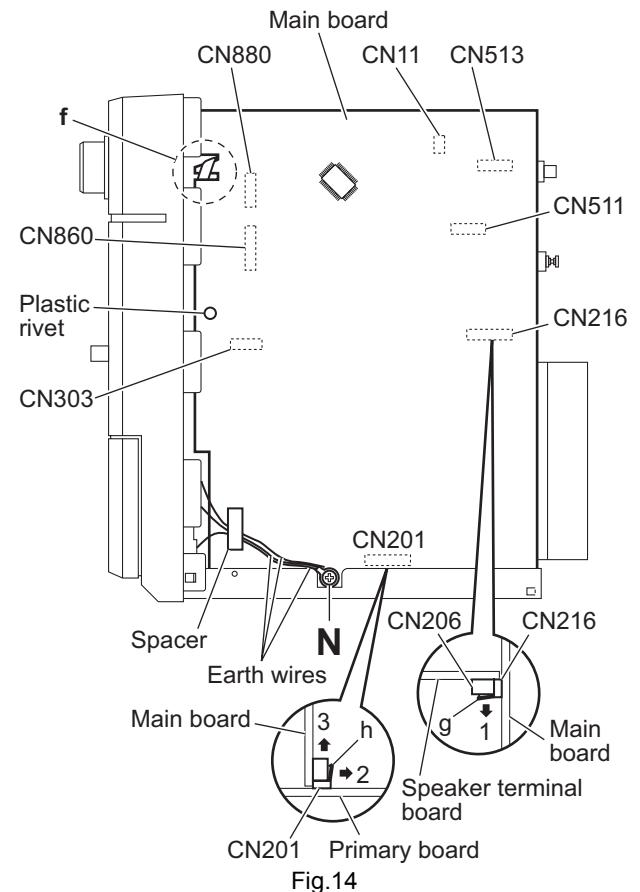

Fig.14
(See Figs.14 and 15)
(1) From the right side of the main body, remove the screw **N** attaching the earth wires on the reverse side of the main board. (See Fig.14.)
After attaching the earth wires, fix them with a spacer as before. (See Fig.14.)
(2) Remove the plastic rivet attaching the main board. (See Fig.14.)
(3) From the inside of the main body, disconnect the card wires from the connectors (CN11, CN303, CN511, CN513, CN860, CN880) on the forward side of the main board. (See Figs.14 and 15.)
When reassembly, pass the card wire through the section **f** of the main board before connecting the card wire to the connector CN11. (See Fig.14.)
(6) Release the lock **g** of the connector CN216 on the main board in the direction of the arrow **1** and disconnect the main board from the connector CN216 on the speaker terminal board toward this side. (See Fig.14.)
When releasing the lock **g** of the connector CN216, take care not to break the lock. (See Fig.14.)
(7) Release the lock **h** of the connector CN201 on the primary board in the direction of the arrow **2** and disconnect the main board from the connector CN201 in the direction of the arrow **3**. (See Fig.14.)
When releasing the lock **h** of the connector CN201, take care not to break the lock. (See Fig.14.)